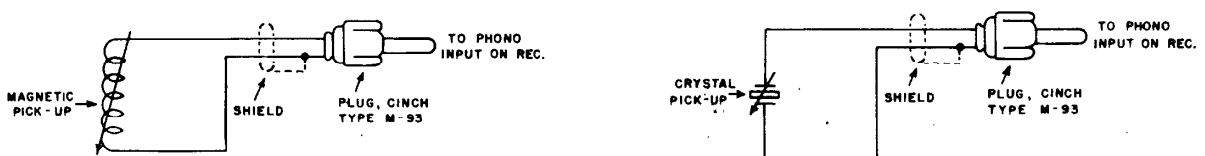

Fig. 4. Wiring diagram. Crystal connection.
**RECORD PLAYER CONNECTION** - A shielded type receptacle is provided at the rear chassis apron to accommodate a record player pickup cable connector. Any record player employing a crystal cartridge or high level magnetic pickup in its tone arm may be used with the receiver. Refer to Figure 4. for wiring details.